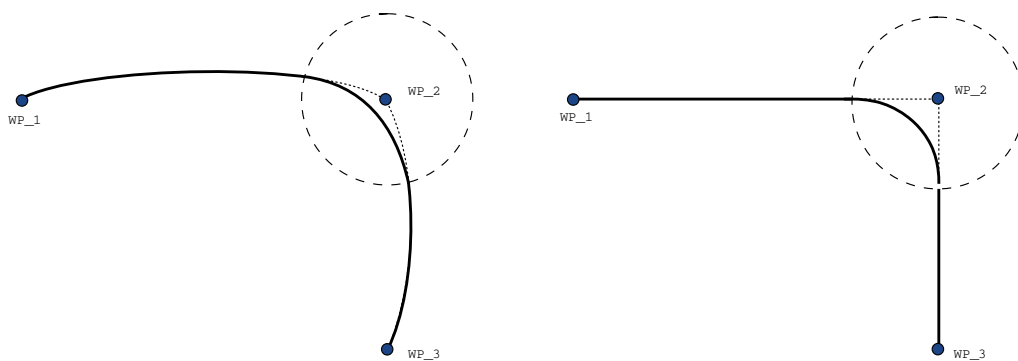

Figure 15.6: Joint space (`MoveJ`) vs. cartesian space (`MoveL`) movement and blend.
- **Blends involving `MoveJ`** `MoveJ` blends cause a smooth curve in joint space. This goes for blends from `MoveJ` to `MoveJ`, `MoveJ` to `MoveL` and `MoveL` to `MoveJ`. The blend produces a smoother and faster trajectory than the movements without a blend (see Figure 15.6). If velocity and acceleration are used for specifying the velocity profile, the blend stays within the blend radius during the blend. If using *time* instead of *velocity* and *acceleration* for specifying the velocity profile of both motions, the blend trajectory follows the trajectory of the original `MoveJ`. When both motions are time constrained, using blends does not save time.